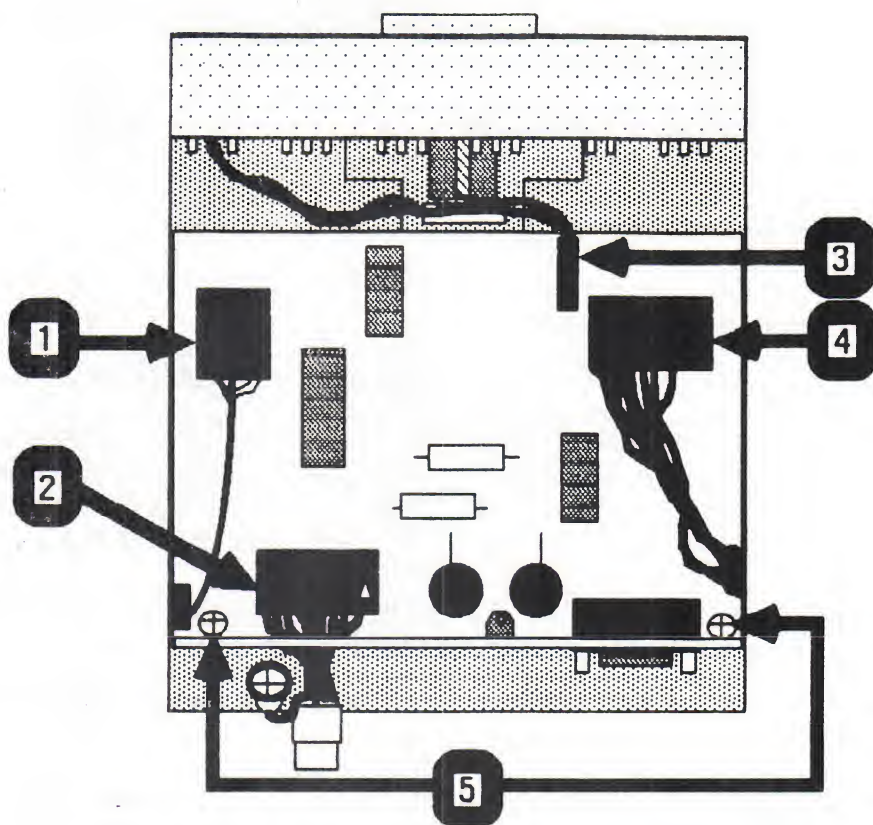

FIGURE 7
a) head connector J4 (Figure 7, #1) - fits only one way
b) bus connector J2 (Figure 7, #2) - white arrow on top
c) LED connector J5 (Figure 7, #3)
d) stepper motor connector J1 (Figure 7, #4) - note position of wires in Figure 7
3. Remove the two Phillips screws (Figure 7, #5) which secure the analog board to the chassis.
5. Replace the two Phillips screws (Figure 7, #5) to secure the analog board to the chassis.